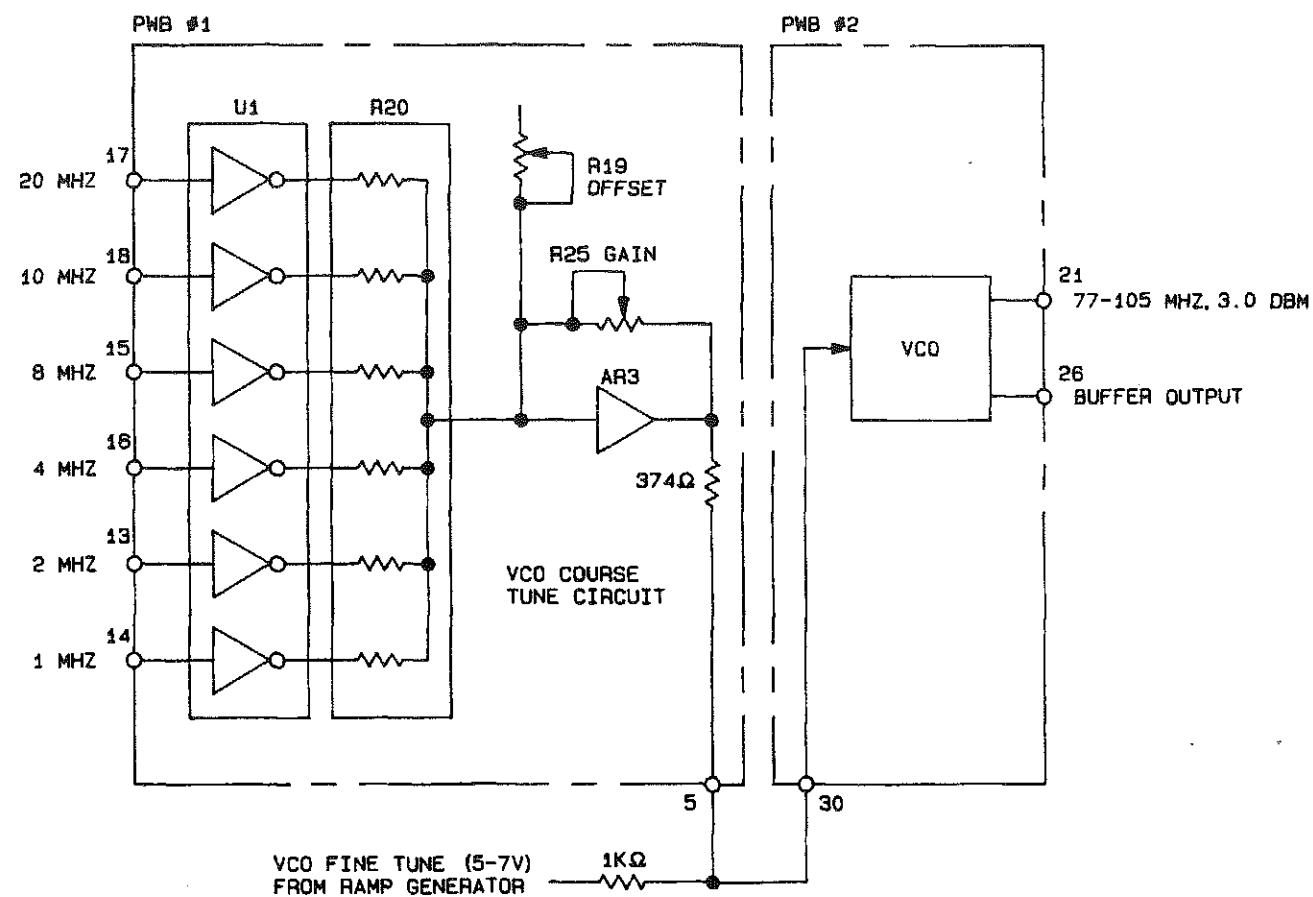

Figure 2-11. 75-105 MHz Voltage-Controlled Oscillator (VCO)
**77-105 MHZ VOLTAGE-CONTROLLED OSCILLATOR (VCO), fig 2-11**